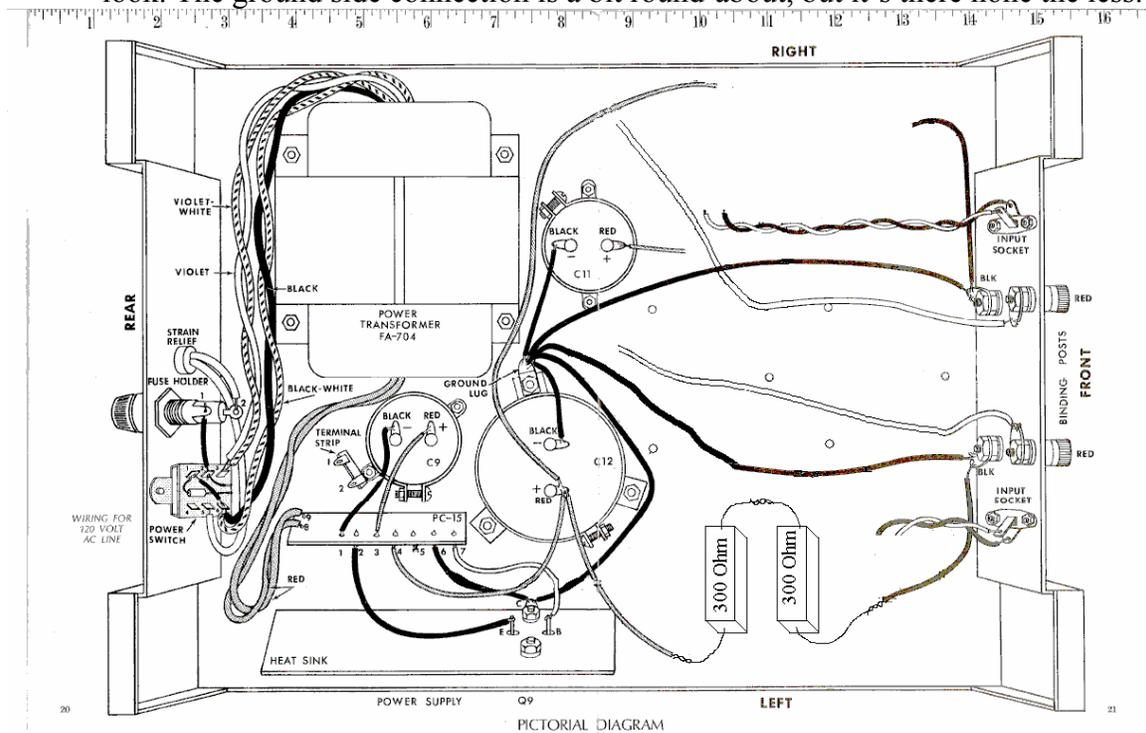

Figure 5-Connecting a test load to the power supply
3. Connect the series resistors across C12. Figure 5 shows how the test circuit will look. The ground side connection is a bit round-about, but it's there none the less.